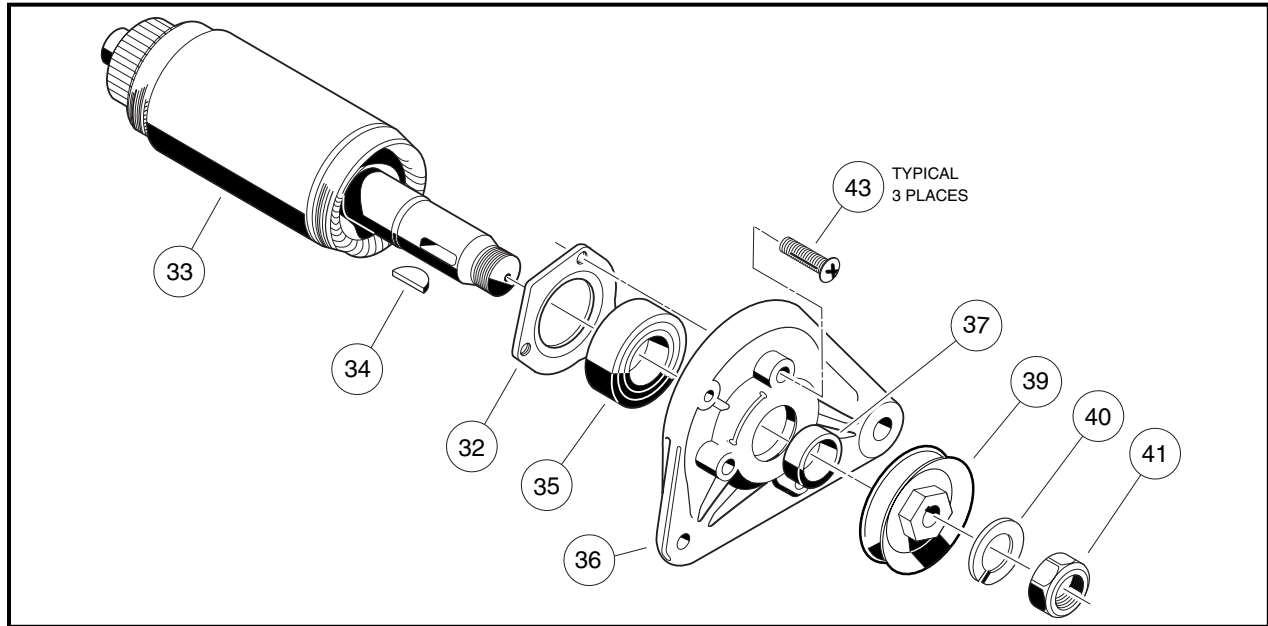

Figure 12-8 Armature and Output End Cover Assembly
2. Remove nut (41), lock washer (40), pulley (39), shaft key (34), spacer (37), and bearing retainer screws (43) and separate armature (33) from output end cover (36) (**Figure 12-8, Page 12-5**).
3. Slide the bearing retainer (32) off of the output end of the shaft (Figure 12-8, Page 12-5).
4. Slide the bearing retainer onto the output end of the armature shaft (33) so that it will hold only the outside of the bearing (35) (**Figure 12-8, Page 12-5**).
5. Press a new ball bearing (35) onto the output end of the armature. Press a new ball bearing onto the commutator end of the armature shaft. **See following CAUTION.**
6. Install the output end cover (36) onto the armature. Secure the bearing retainer (32) to the cover and tighten the screws (43) to 39 in-lb (4.4 N·m) (**Figure 12-8, Page 12-5**).
11. Slide the spacer (37) onto the end of the shaft. Insert the shaft key (34) into the shaft. Install the belt pulley (39) onto the shaft, and install the lock washer (40) and M14 nut (41) and tighten the nut to 28 ft-lb (38 N·m) (**Figure 12-8, Page 12-5**).